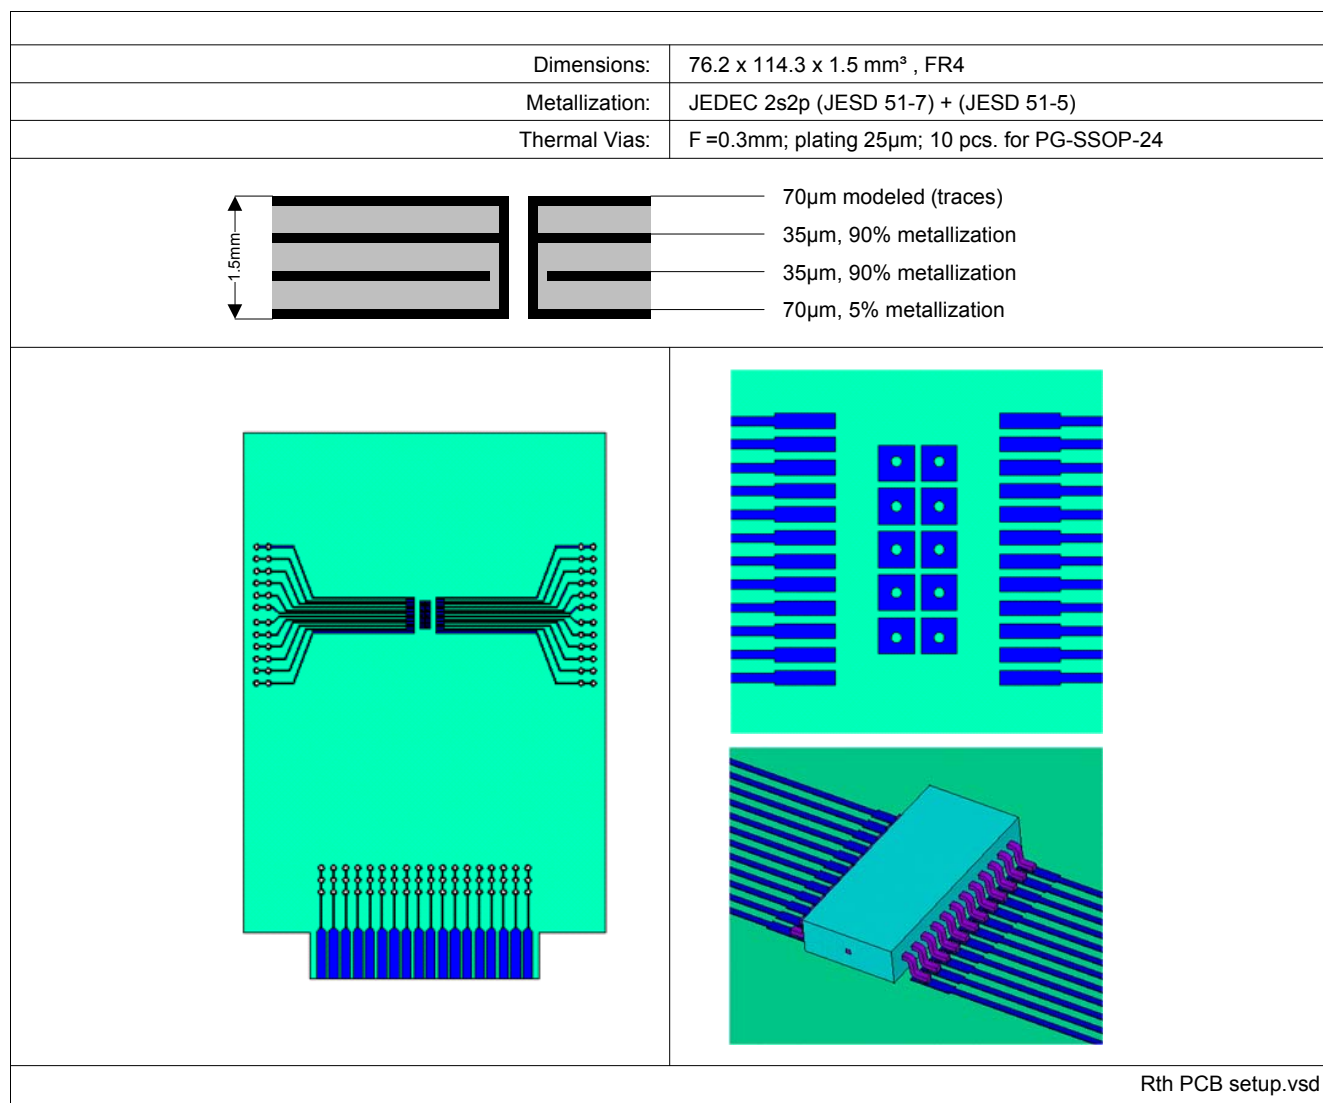

Figure 3 PG-SSOP-24 PCB setup
3) Refer to Figure 3 for the setup.